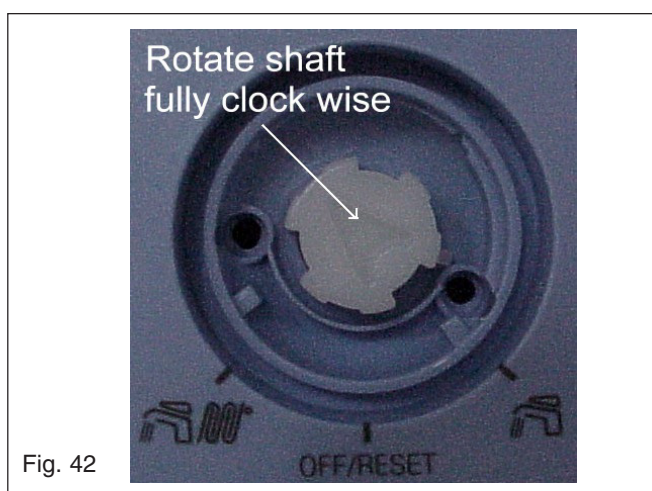

Fig. 42
- Remove the mode selector knob and turn the shaft fully clockwise (see fig. 42).